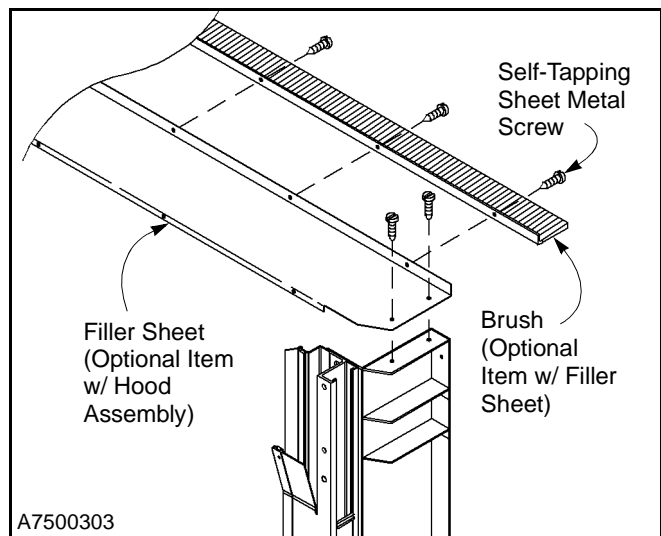

Figure 49
1. Center the filler sheet across each pullout, between the hood and wall. The lip along the front edge of the filler sheet faces the floor — the lip along the back edge faces the ceiling. (See Figure 49.)